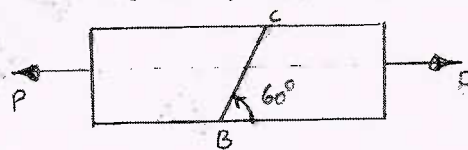

Fig.Q3(b)
- A rectangular bar of cross section area of 11,000 mm2 is subjected to a tensile load 'P' as shown in Fig.Q3(b). The permissible normal and shear stresses on the oblique plane BC are given as 7 N/mm2 and 3.5 N/mm2 respectively. Determine the safe value of 'P'. (06 Marks)